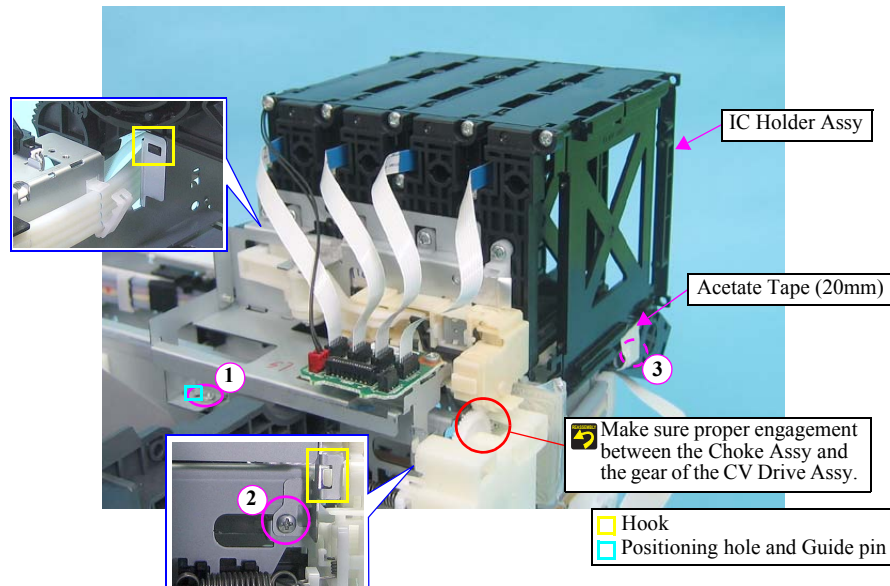

Figure 4-85. Removing the IC Holder Assy (10)
- Tighten the screws in the order indicated in Figure.4-76 and Figure.4-85.